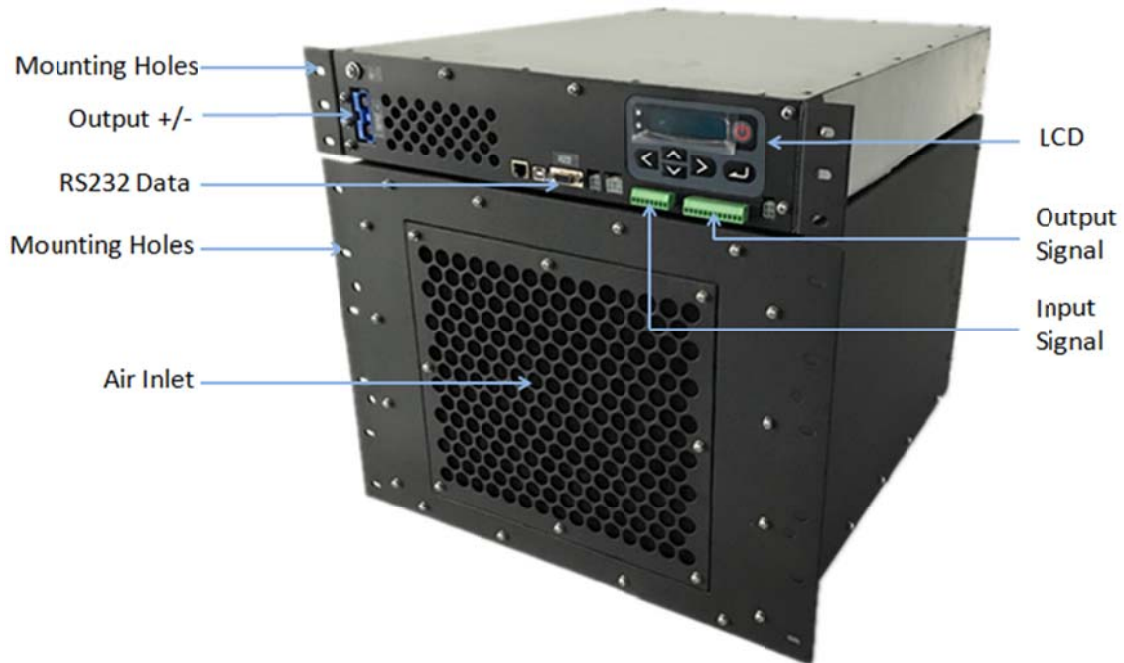

Figure 3-1. The front panel introduction of T-2.5KW
- The introduction of the front panel of T-2.5KW system, please see figure3-1.